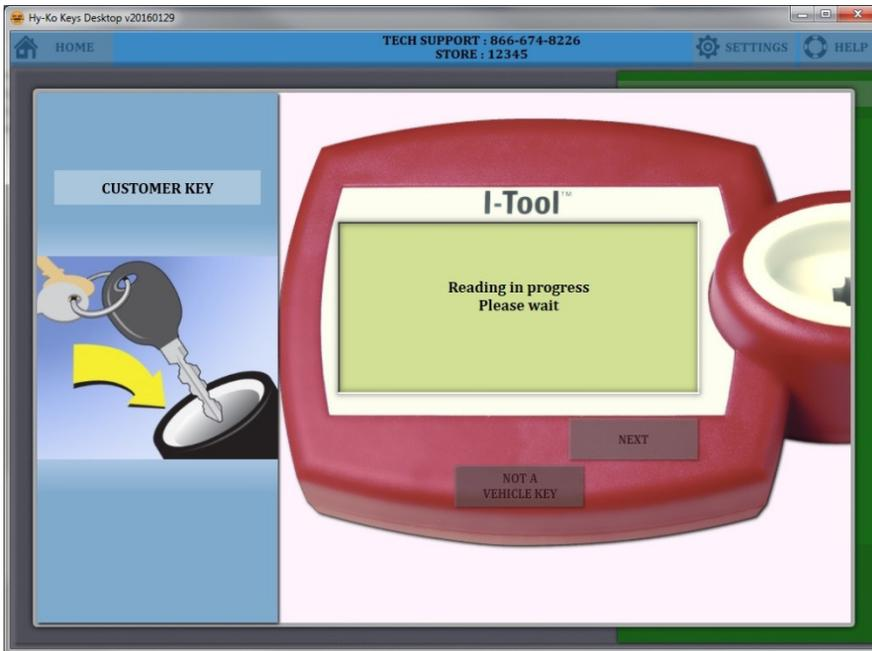

fig. 65
- The I-Tool will read the customer's key (see fig. 65). You can see the progress on the picture of the I-Tool on the software.